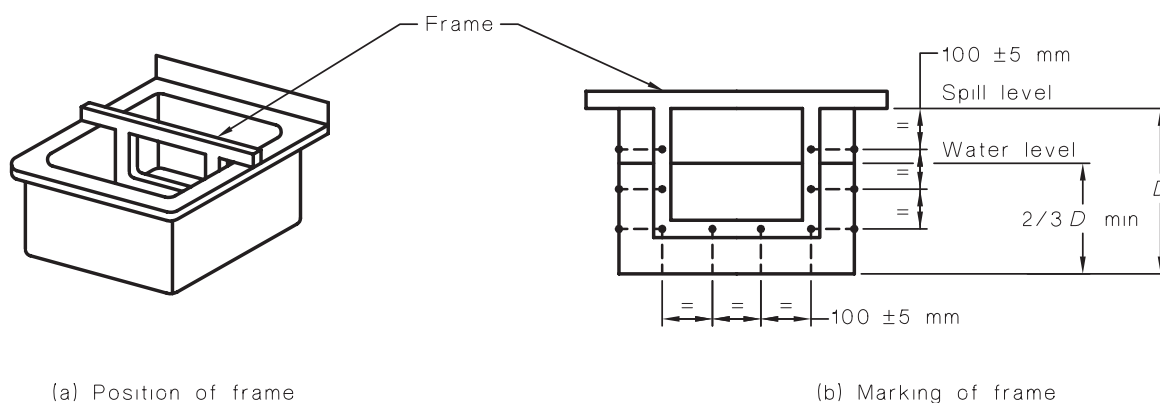

FIGURE 1 TYPICAL TEST SET-UP
- (a) A measuring frame, of timber or steel, which can hang down inside the sink when securely fixed to the flange of the sink (see Figure 1).